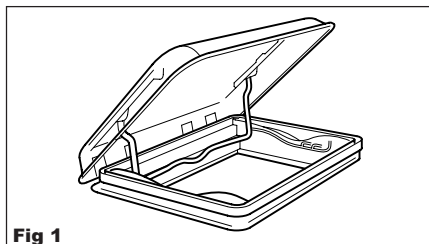
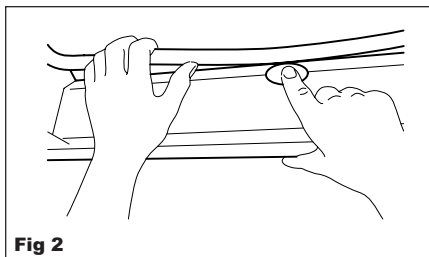

Fig 1
Fig 2
- To open, push the large central button (Fig 2).
The rooflight can be raised to an opening angle, on one side, to a maximum of 70° (Fig 1). To open, pull the operating bar down unlocking the mechanism. Now move the bar forwards (in direction of travel) and the rooflight will open; all the time holding the bar down. As soon as the operating bar is released it will lock into position and the dome will stay at this angle (Fig 2).